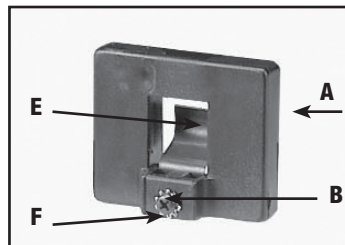
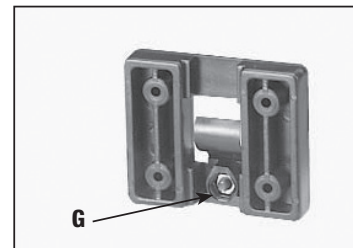

Fig. 19
Fig. 20
1. Attach the spring clip (E) Fig. 19 to the miter gauge holder (A) using an M4x.7x10mm pan head screw (F), 3/16" external tooth lockwasher (B) and M4x.7 hex nut.
**NOTE: The hex nut (G) Fig. 20 will fit into the recess at the back of the miter gauge holder (A) Fig. 19 to keep the spring clip (E) secured to the miter gauge holder.**